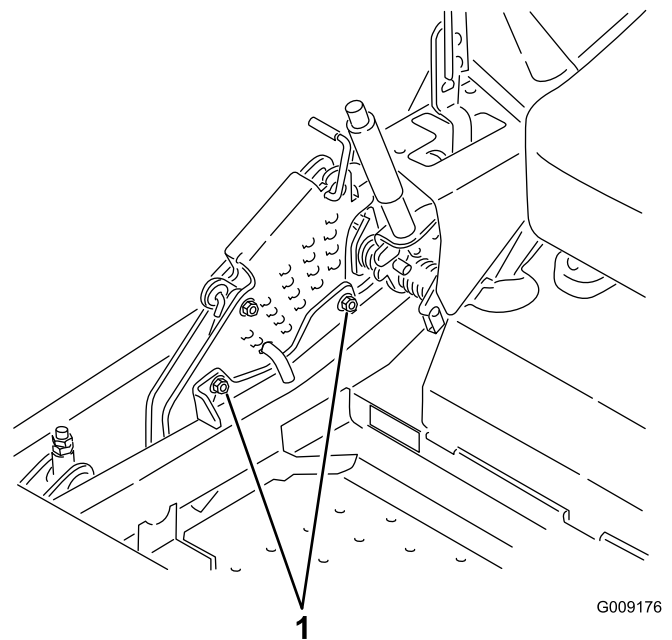

Figure 92
12. To adjust the single point system, loosen the two bolts at the bottom of the height of cut plate. Refer to Figure 92.
14. Tighten the two bolts at the bottom of the height of cut plate (Figure 92). Torque to 27-33 ft-lb (37-45 N-m).